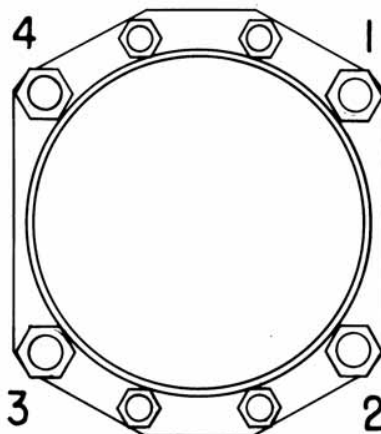

Figure 5-2. Representative Sequence of Tightening Cylinder Base Hold-Down Nuts
- (5) Tighten the ½ inch hold-down nuts to 300 in.-lbs. (25 ft.-lbs.) torque, using the sequence show in Figure 5-2.
- (6) Using the same sequence, tighten the ½ inch hold-down nuts to 600 in.-lbs. (50 ft.-lbs.) torque.
- (7) Tighten the ¾ inch hold-down nuts to 300 in.-lbs. (25 ft.-lbs.) torque. Sequence of tightening is optional.
- (8) As a final check, hold the torque wrench on each nut for about five seconds. If the nut does not turn, it may be presumed to be tightened to correct torque.